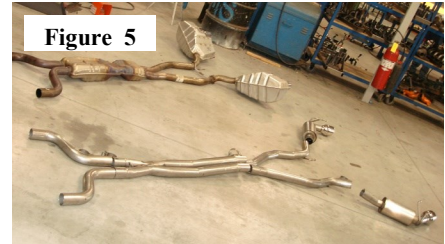

Figure 5
1. Place removed OE exhaust system on the ground and using this as a reference, arrange components of new exhaust (See Fig. 5).